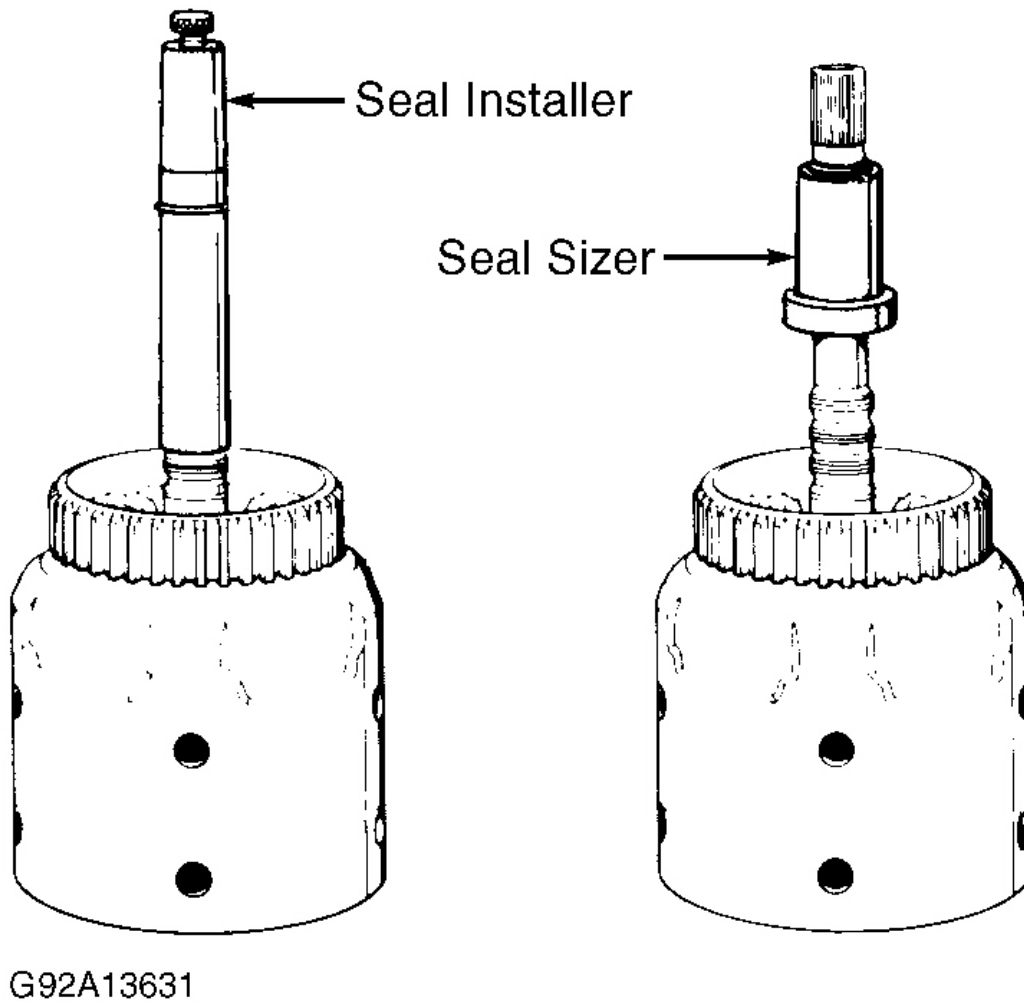

Fig. 33: Installing & Sizing Turbine Shaft Seals
1. Turbine shaft seals should be installed just before oil pump installation. Position Seal Installer (J-36418-1) on input shaft. See **Fig. 33**. Adjustment screw in seal installer must be adjusted to obtain correct height for each seal installation. Install 4 turbine shaft seals.